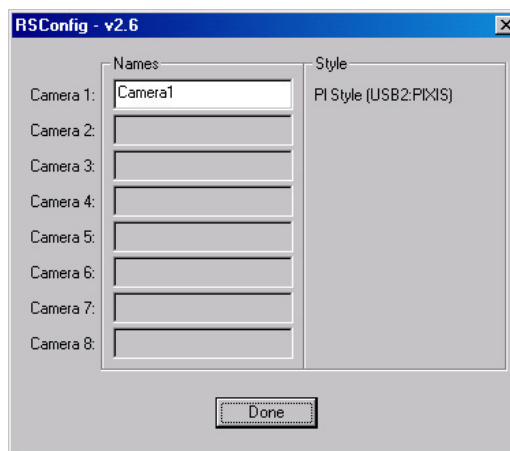

Figure 10. RSConfig dialog box
3. When the RSConfig dialog box (Figure 10) appears, you can change the camera name to one that is more specific or you can keep the default name "Camera1". When you have finished, click on the **Done** button.